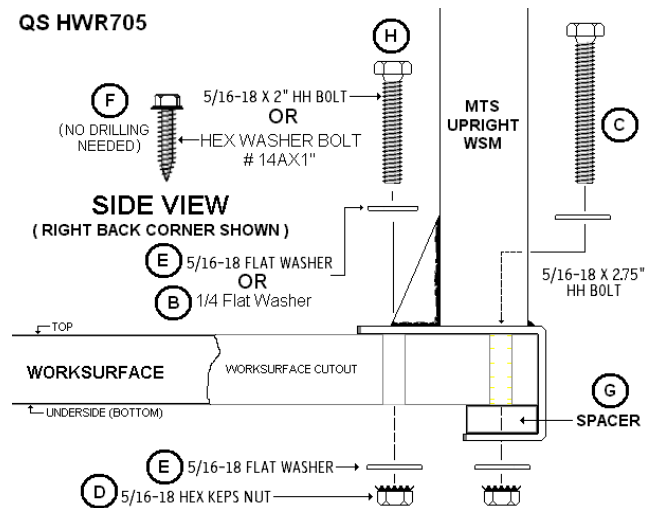

**FIGURE 2**
6.	QS MTS WSM 2 Figure 2 Vertical Frame Systems
**Installed on a new or existing IAC Bench See FIG. 2, PAGE 6**
## QS MTS II Frame, WORKSURFACE MOUNT Installed on a non-IAC Bench See FIG. 2, PAGE 6